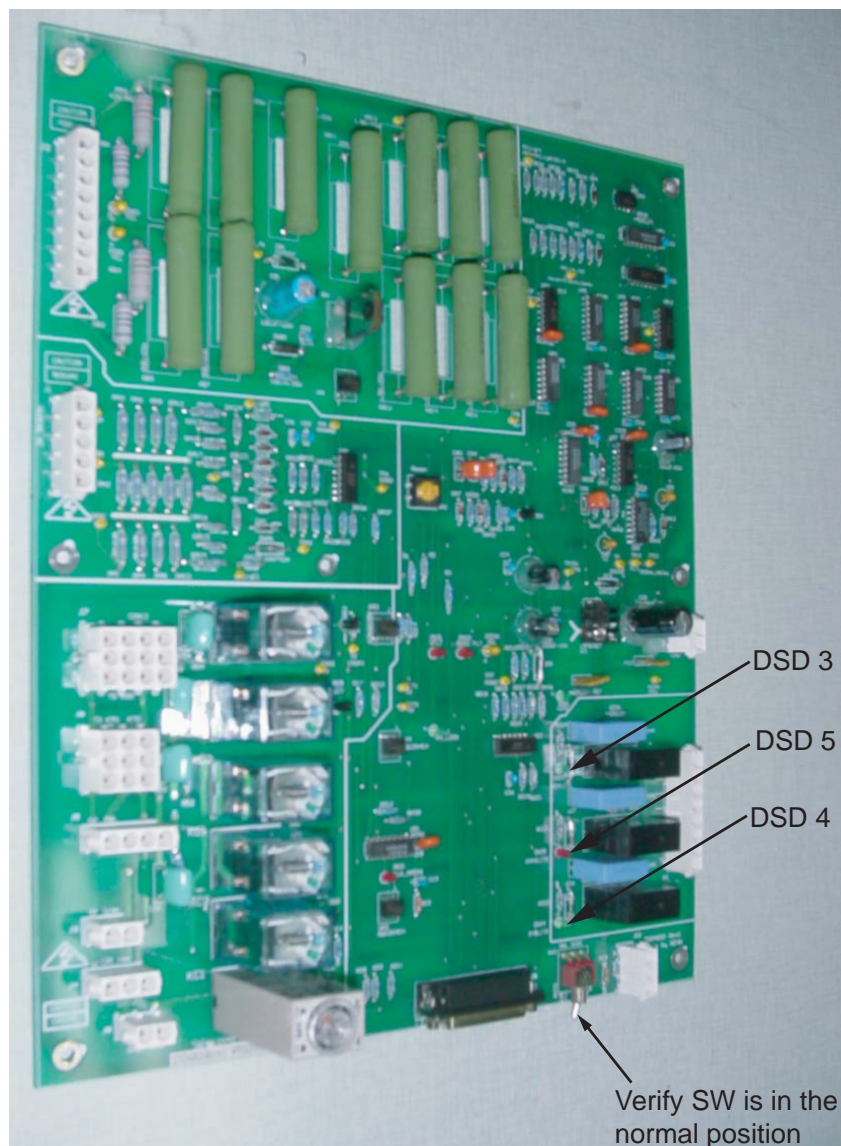

Figure 5-2 NGPDU Control Board
- 2.) When system is already, three lamps are both lighting (refer to Figure 5-2).